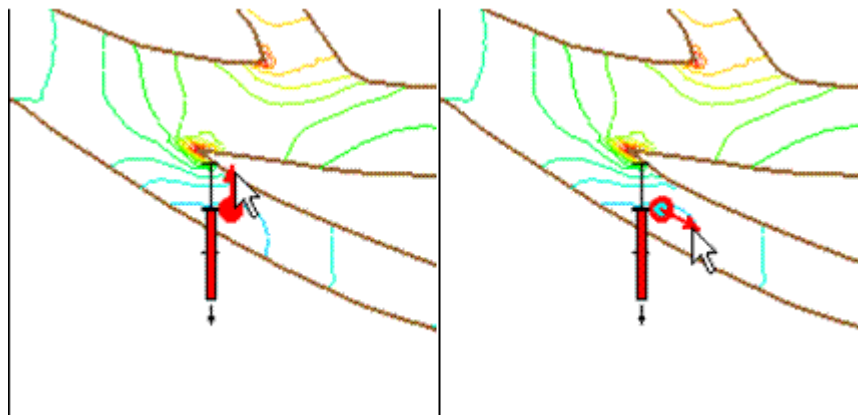

Figure 2 “Point 1” with an arrow angle of 0° and then rotated to 120°
2. Choose the **Select Feature Point**  tool and select the observation point arrow and rotate the point arrow approximately 120° by dragging the end of the arrow clockwise. Do not worry if this angle is not exactly 120° . The arrow just needs to be pointing in the general direction the velocity meter was set up in the field. This is usually in the direction of flow. Figure 2 shows a close-up of “Point 1” with the arrow pointing up (0° angle) and then the position of the arrow at an angle of approximately 120° .